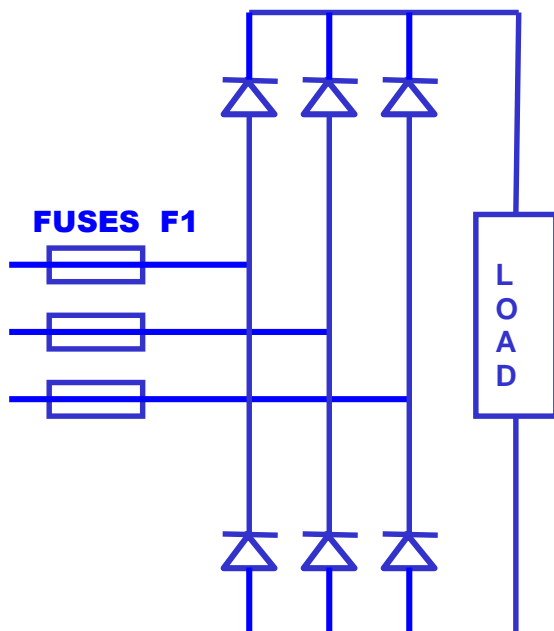

Figure 4 : protection with 3 fuses
- Fuses can be fitted in the input lines as per figure 4 (3 fuses F1)